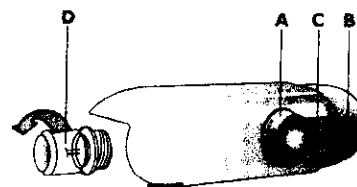

fig. 1
• If the refrigerator compartment of your appliance is fitted with a thermostat box and an external panel, the temperature of both compartments is adjusted using the thermostat knob as shown in figure 1. Move the knob to the ● position to switch the whole appliance off.
• If in addition to the internal thermostat box your appliance also has an external control panel with an adjustment knob, the temperatures of the two compartments must be adjusted separately. The knob of the thermostat inside the refrigerator compartment is used for adjusting the temperature of the refrigerator compartment only (see fig. 1), while the external panel is used to adjust the temperature of the freezer compartment (see the quick guide).
To remove the light bulb turn anticlockwise as shown in figure 1.